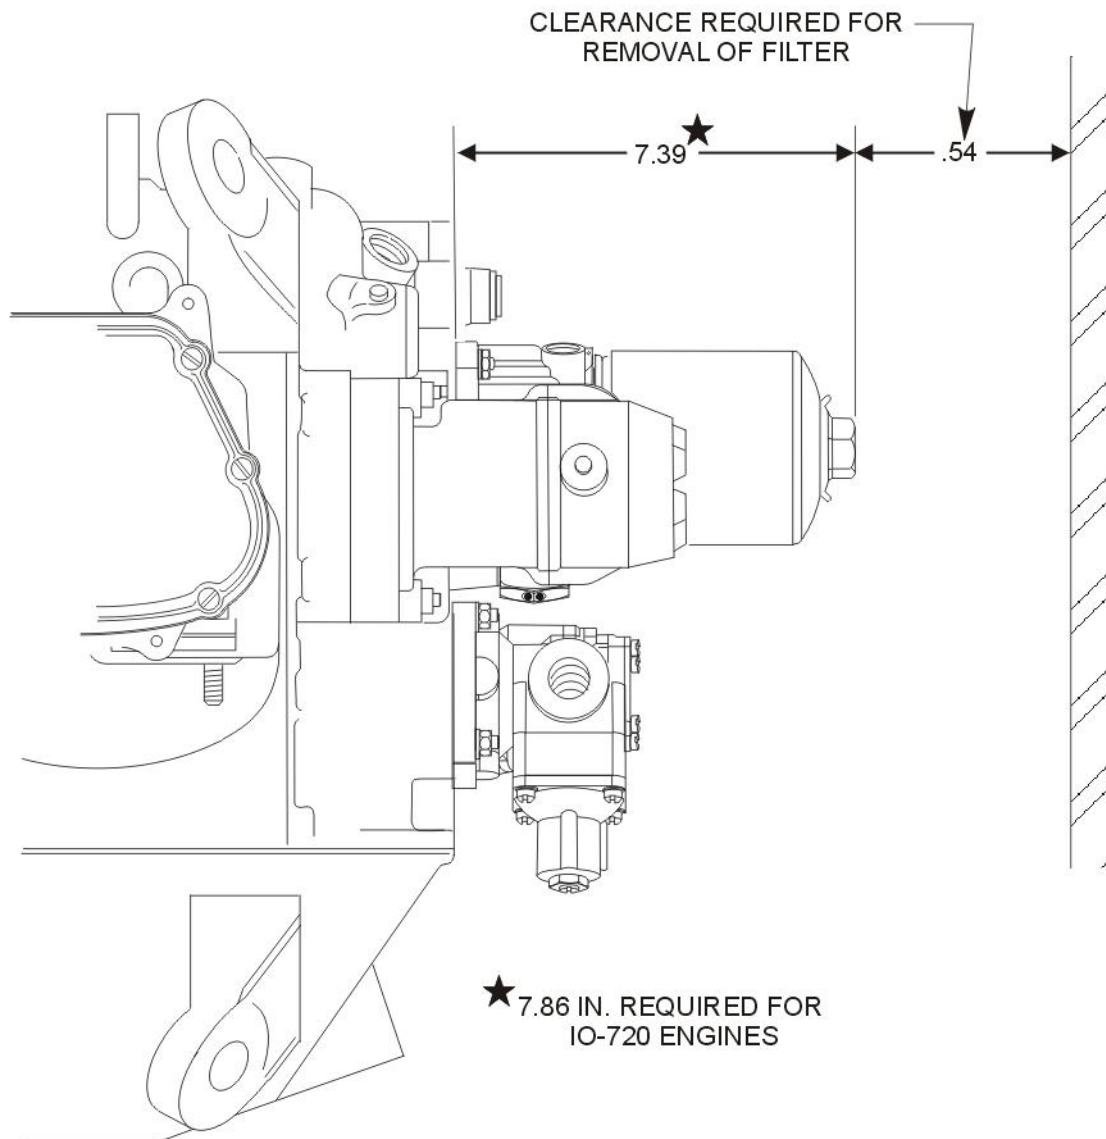
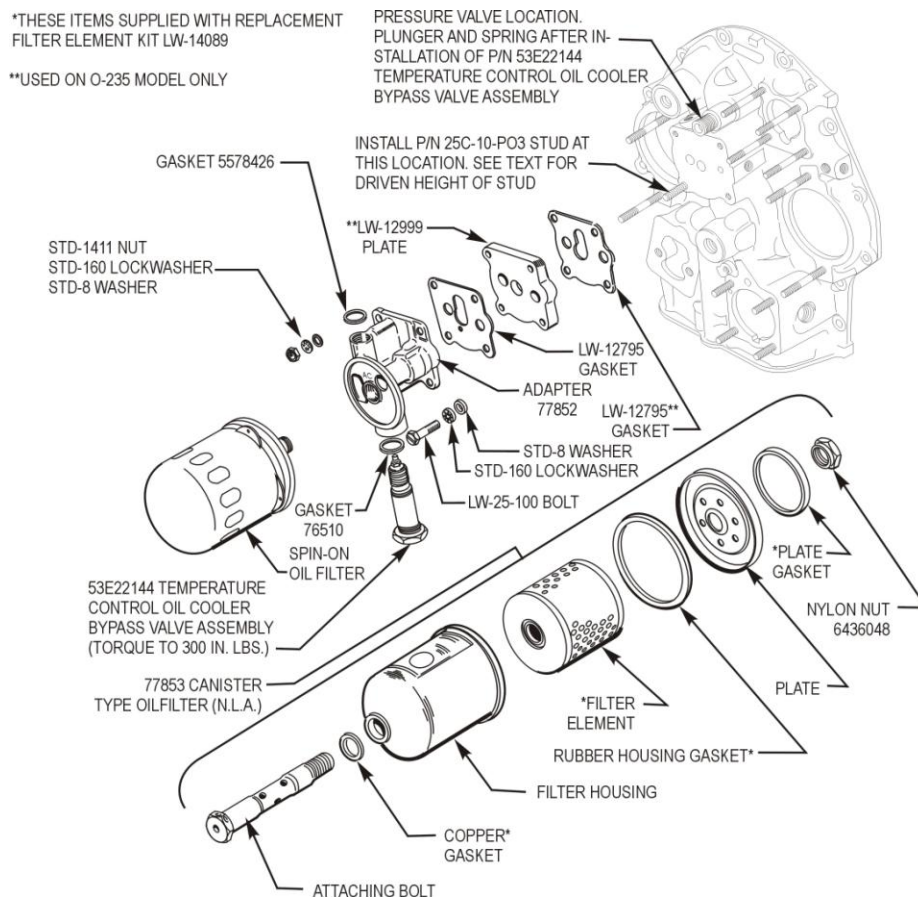
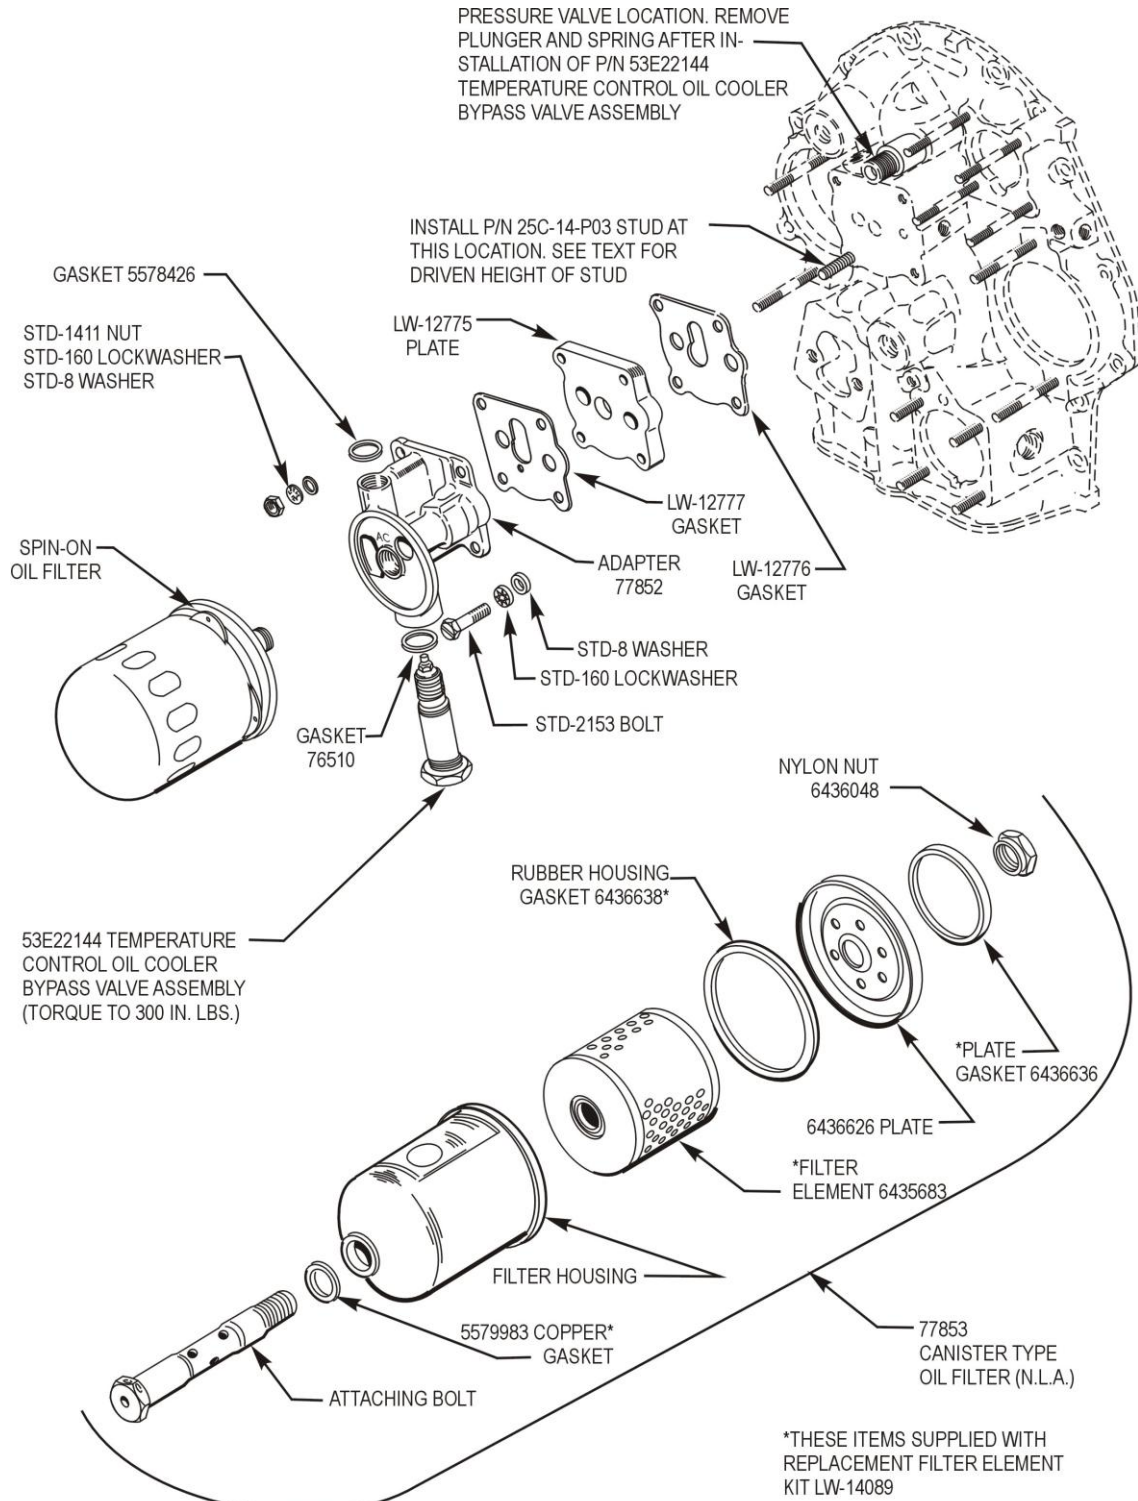
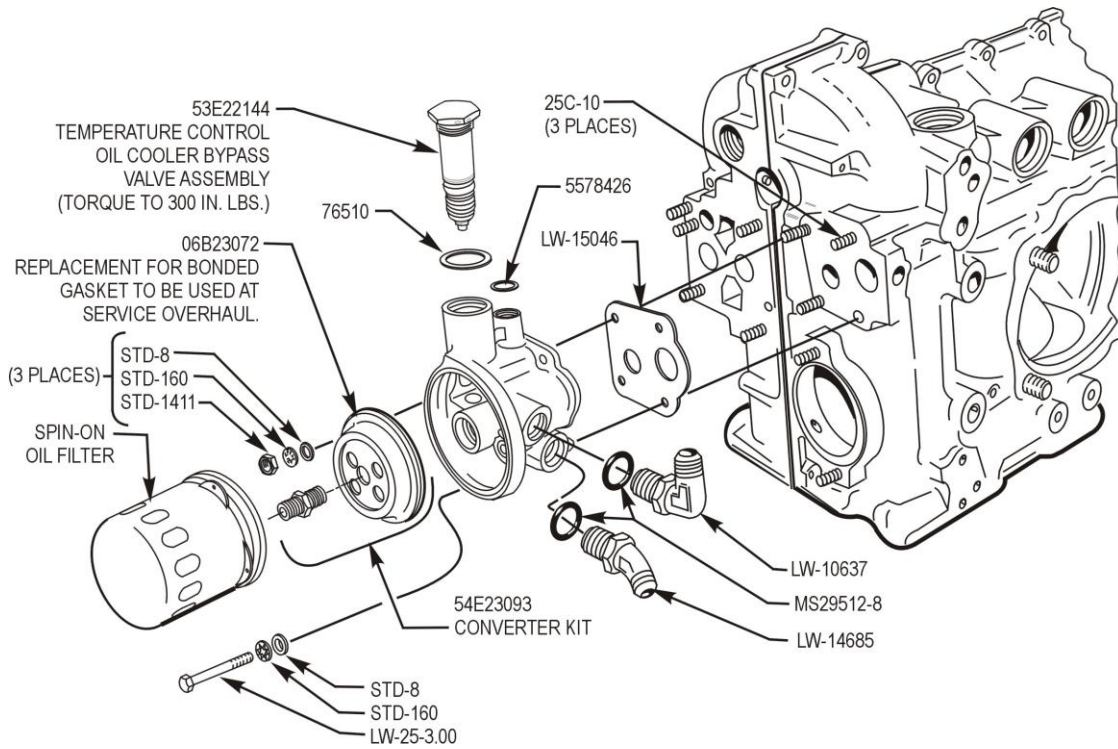

Figure 1. Full-Flow Oil Filter Installation
Figure 2. Exploded View of Full-Flow Oil Filter Assembly (O-235)
Figure 3. Exploded View of Full-Flow Oil Filter Assembly (IO-720)
Figure 4. Exploded View of Full-Flow Oil Filter Assembly – 76 Series
Engines not equipped with an oil filter can be converted as shown in Figures 2, 3, 4 and 5. The filter is mounted on the oil pressure screen housing pad by means of a special adapter which also serves as a housing for the thermostatic oil cooler bypass valve and oil temperature bulb. See Figure 1 for required clearance between the accessory housing mounting pad and the aircraft firewall.
4. If the engine was not equipped with a thermostatic bypass valve, remove the plug located above the oil filter mounting pad and remove the spring and plunger that serve as an oil cooler bypass valve. Reinstall the plug and gasket. See Figures 2 and 3. Remove the oil cooler adapter on 76 series models. The full-flow filter base contains all provisions for oil cooler operation; therefore, the adapter is no longer necessary. See Figure 4.
5. Using a ¼ inch stud driver, install a P/N 25C-10-P03 stud (P/N 25C-14-P03 on IO-720 engines) in the lower left tapped hole in the accessory housing mounting pad. See Figures 2 and 3. Drive the stud to a height of .64/.68 on O-235-C models; 1.08/1.12 on IO-720 models and .60/.64 on all other engine models. On 76 series models, first remove the two original studs from the oil filter pad, then install three P/N 25C-10-P03 studs (1 each) at the lower left, upper left and upper right mounting pad holes. See Figure 4. Driven height on these studs is .59/.63.
8. On O-235 series only, assemble the P/N LW-12999 plate and a second P/N LW-12795 gasket as indicated in Figure 2. On IO-720 engines use P/N LW-12775 plate and P/N LW-12777 gasket; note lettering on gasket and assemble accordingly. See Figure 3.
2. Install the filter assembly on the P/N 77852 adapter. Tighten the attaching bolt to 20-25 foot pounds torque. Lockwire the bolt through the loop on the side of the filter housing as shown in Figure 1.
3. Using a P/N 5578426 gasket, install the oil temperature bulb at the location shown in Figures 2 and 3. The hole provided for the oil temperature bulb is tapped 5/8-18 NF-3 to accommodate a P/N MS28034-1 temperature bulb. If a different type is used an adapter may be required.
4. A P/N 53E22144 temperature control oil cooler bypass valve assembly must be assembled at the location provided in the adapter. Use the P/N 76510 gasket that accompanies the valve. See Figures 2, 3 and 4. Lockwire as shown in Figure 1.
3. A P/N 53E22144 temperature control oil cooler bypass valve assembly must be assembled at the location provided in the adapter. Use the P/N 76510 gasket that accompanies the valve. See Figures 2, 3 and 4. Lockwire the valve and filter as shown in Figure 1.
The oil cooler bypass valve mentioned in Part II and Part III is not used on some of the O-235 series engines. On these models use a P/N STD-111 annular gasket and P/N STD-1350 square head plug. Lockwire the plug in the same manner as shown for the thermostatic oil cooler bypass valve in Figure 1.
The installation of the P/N 54E23093 converter kit is as follows (See Figures 4 and 5):